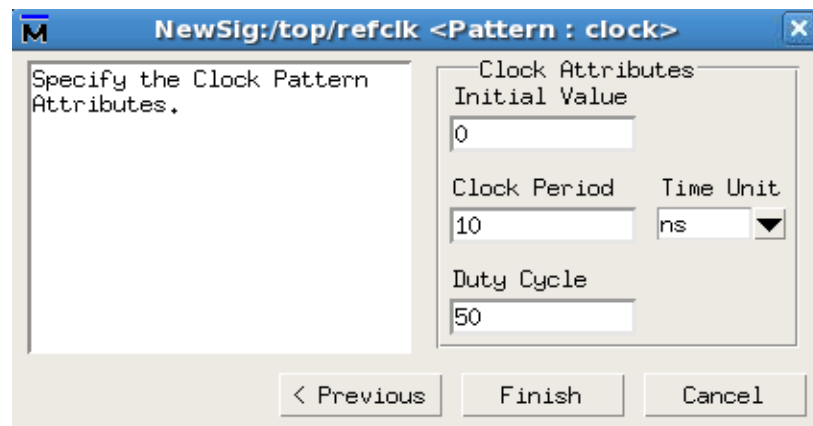

Figure 6
- d. Give the initial value and clock period as shown in Figure 6 and click Finish.